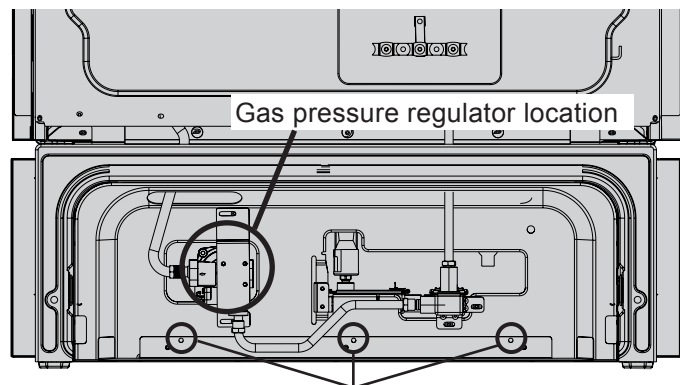

Figure 3
- If you are using a through the floor gas entry, remove the line protector shield from the bottom of the unit to allow access for the pipe line (figure 3).
Your regulator is in location as shown in figure 3.